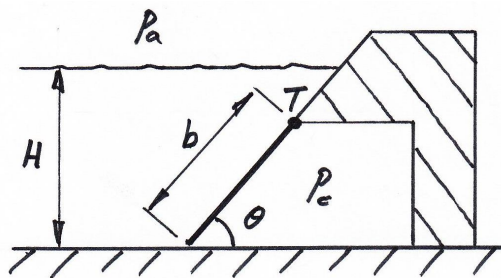

Figure P2.45
2.45 A rectangular door of width w and length b is placed in the sloping side wall of a tank containing water of density ρ and depth H . The top of the door is hinged without friction at point T, as shown in Figure P2.45. On the other side of the door is a pressurized chamber containing air at gauge pressure p_c . Find the value of p_c at the point where the door is just about to open, in terms of ρ , w , g , b , H and θ . The top of the tank is open to the atmosphere, and the door has no mass. Show your coordinate system(s).